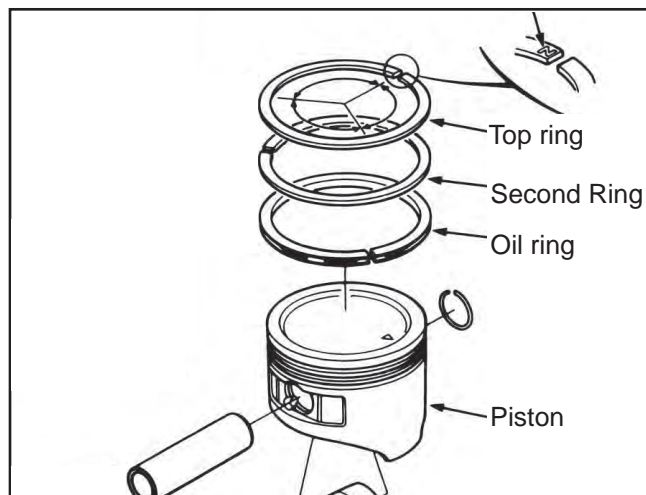

Figure 5
1. Assemble the rings onto each piston in the following order (Figure 5):